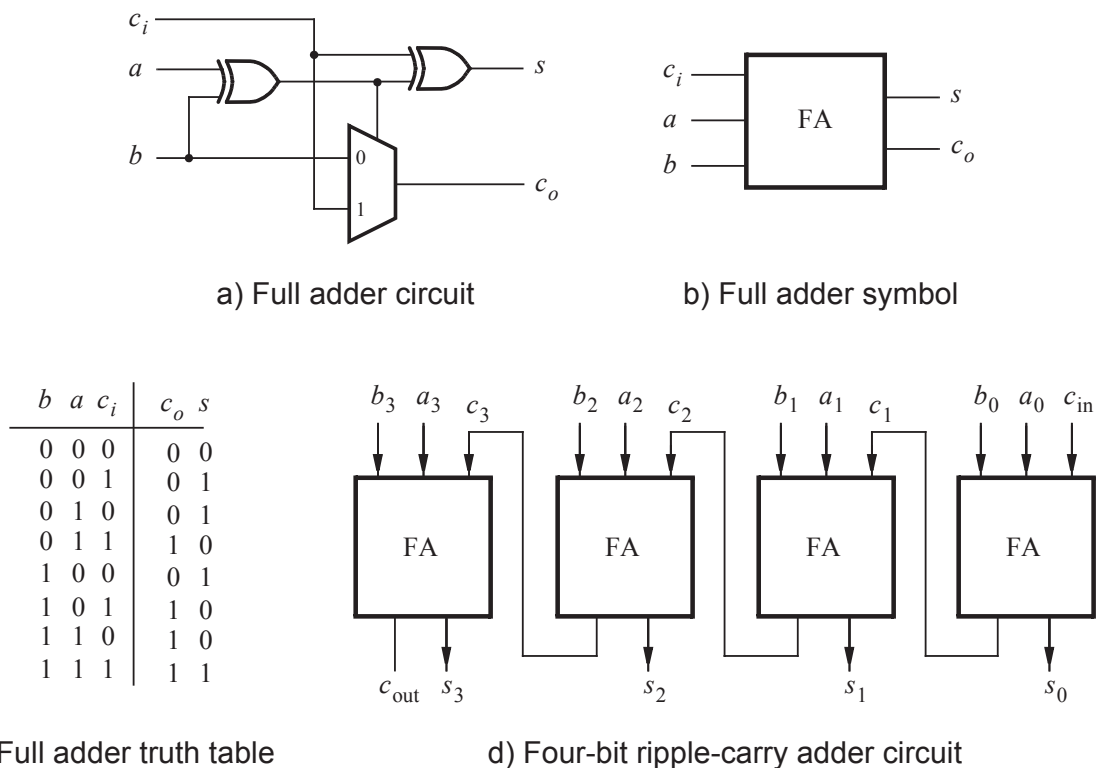

Figure 1: A ripple-carry adder circuit.
Figure 1(a) shows a circuit for a *full adder*, which has the inputs a , b , and c_i , and produces the outputs s and c_o . Parts b and c of the figure show a circuit symbol and truth table for the full adder, which produces the two-bit binary sum $c_o s = a + b + c_i$. Please note that the $+$ operator here means addition and not logic OR. Figure 1(d) shows how four instances of this full adder module can be used to design a circuit that adds two four-bit numbers. This type of circuit is called a *ripple-carry* adder, because of the way that the carry signals are passed from one full adder to the next. For this part of the lab, you will build this circuit in Logisim, as described below. Be sure to use what you learned about hierarchy in Lab 2.
- Draw a schematic showing your code structure with all wires, inputs and outputs labeled. Your schematic should resemble Figure 1(d), though it should also contain module and signal labels, and shows external connections to switches and LEDs (use *SW3-0* for *A*, *SW7-4* for *B* and *SW8* for *C_{in}*. Use *LEDR4-0* for the outputs). Be prepared to explain your design approach to the TA as part of your preparation. **(PRELAB)**
2. In Logisim, build the module for the full adder subcircuit. Once this subcircuit is complete, implement the larger module (the one resembling Figure 1(d)), which instantiates the four instances of this full adder. Name the input ports A , B and c_{in} , and the output ports S and c_{out} . Note: You should **NOT** use Logisim's built-in arithmetic addition component in your full-adder. Doing so will earn you 0 marks for this part. **(PRELAB)**